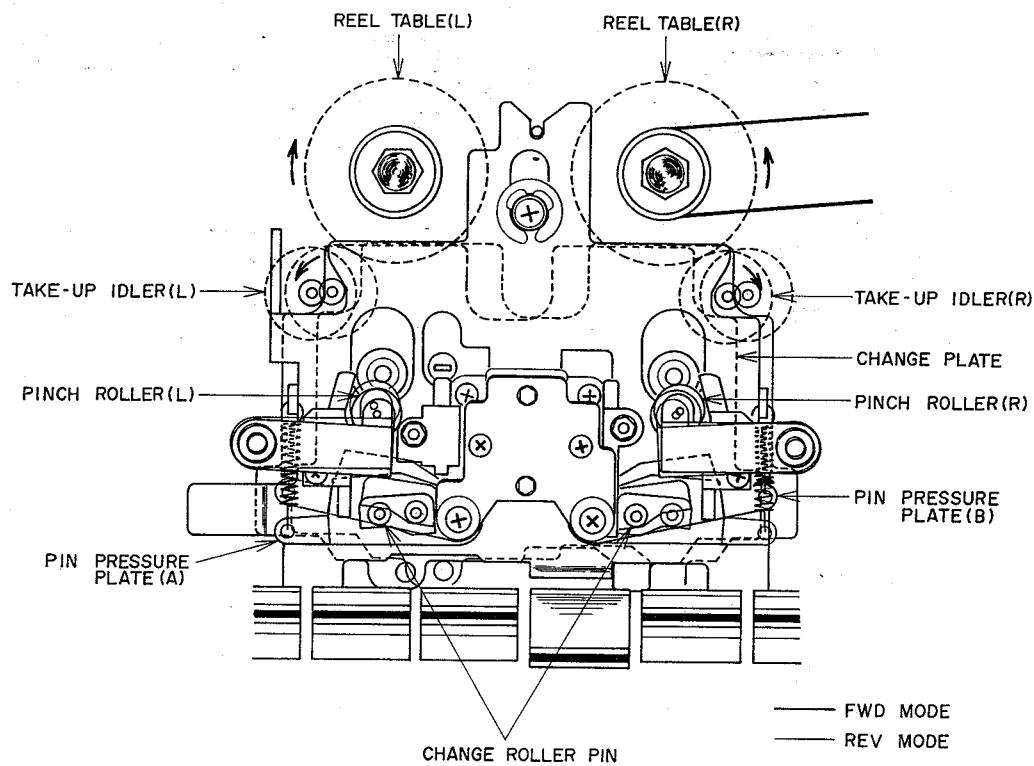

Fig. 5
In the FWD Mode the Reverse Adjust Lever is on the left and, therefore, Change Plate on Fig. 5 is also on the left. Since the Take-up Idler(R) is in contact with the reel table(R), the rotation from the flywheel is transmitted to the reel table(R) and the tape is taken-up in the forward direction. The Change Roller Pin fixed on the Change Plate is also in the left hand position causing Pin Pressure Plate (A) and (B) to be as in Figure 5. Since the Pin Pressure Plate (B) is in a position unaffected by the Change Roller Pin, Pinch Roller(R) comes in contact with the capstan and the tape is sent in the FWD direction. The Pin Pressure Plate(A) is pressed down by the Change Roller Pin and, Therefore, Pinch Roller(L) is separated from the capstan.